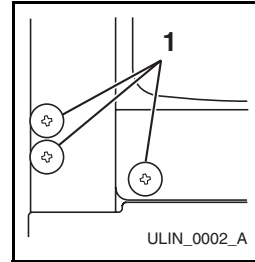

Figure 24
2. Remove plastic screw plugs (three each, top and bottom) (**Figure 24, 1**) from new hinge location. Do not discard.